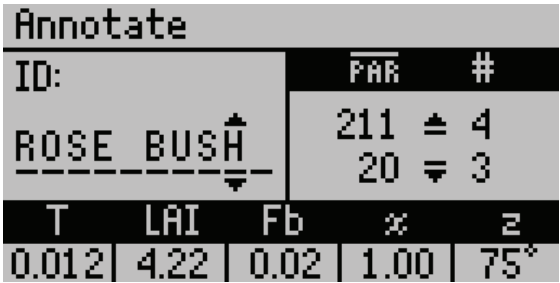

Figure 11 Annotate screen
- Annotate: create a file name or description (Figure 11).